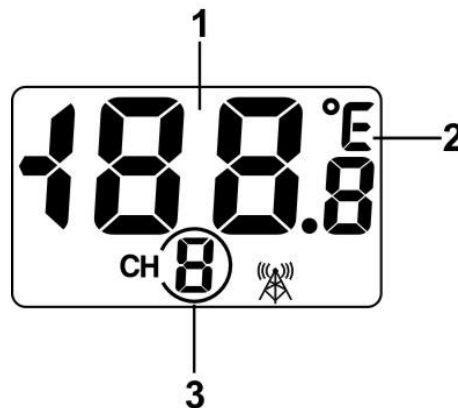

Figure 7
- (1) Open the battery compartment and (2) insert 4 x AAA batteries into the battery compartment, observing the correct battery polarity.
5. Verify the correct channel number (CH) and temperature units of measure (°F vs. °C) are on the display, as shown in Figure 7.